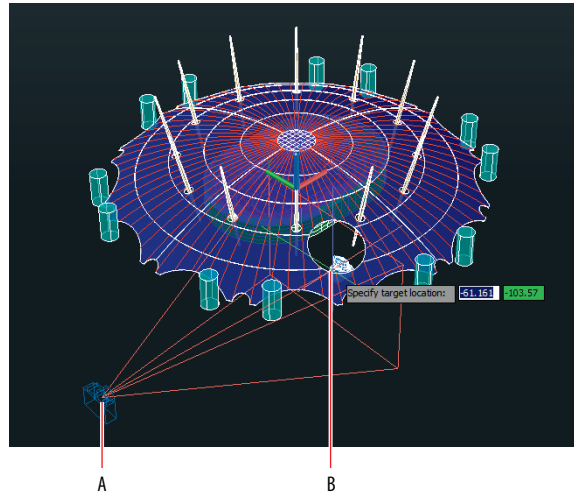

FIGURE 16.15 Placing a camera in an isometric view
4. Type **CAMERA**, and press Enter. Click points A and B, as shown in Figure 16.15, and press Enter.